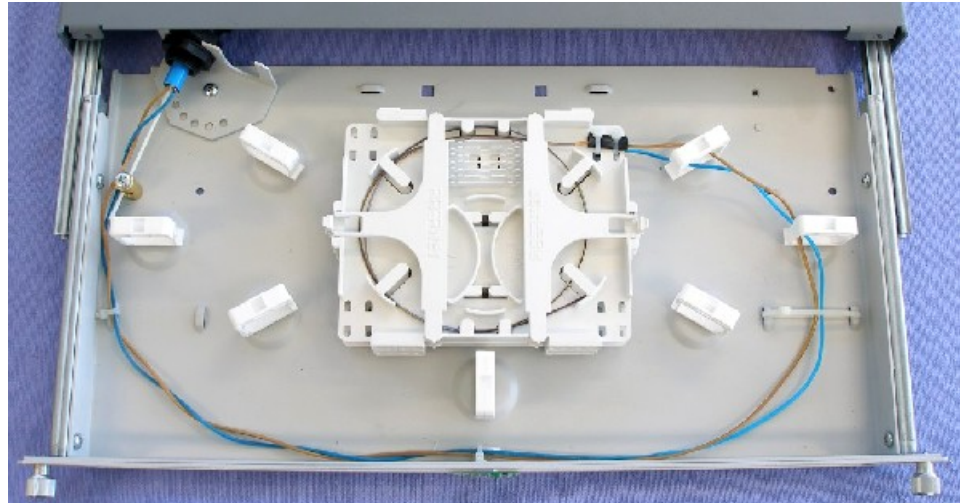

Figure 12. Loose tube fibres lay-up and secured onto the splice tray
- a) Lay-up the loose tube fibres onto the splice trays as illustrated in Figure 12.